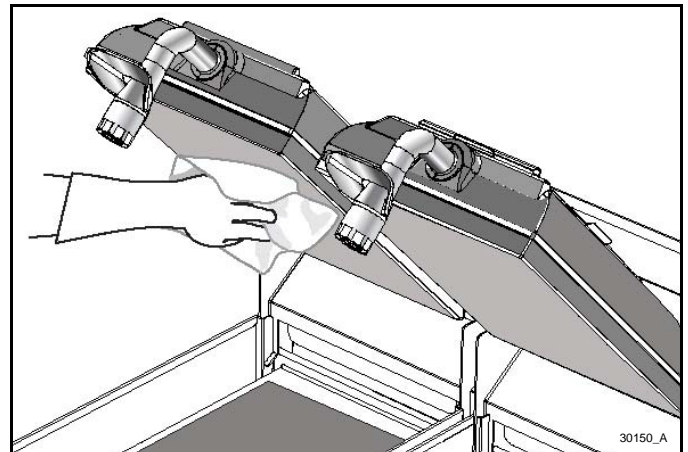

Figure-143
10. Use the sanitizer-soaked grill cloth to wipe clean the exposed surfaces of the upper release sheets, including the sides. Repeat the cleaning for the lower release sheets. See Figure-143.